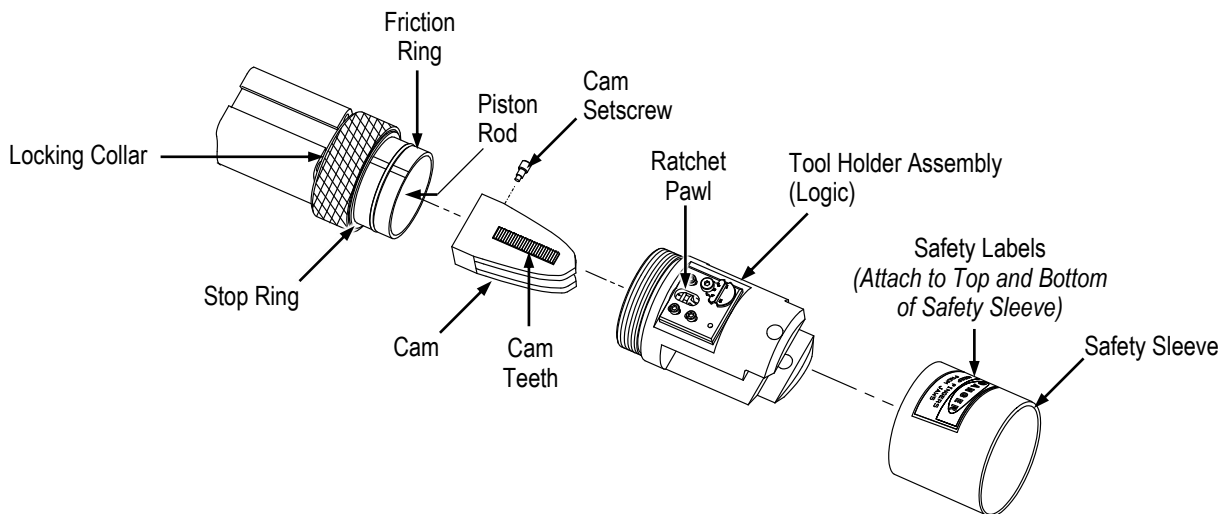

Figure 8
A strip of adhesive-backed safety labels, printed in various languages, is packaged with the tool holder assembly. Remove the appropriate label from the strip and attach it to the safety sleeve (which is supplied with the small and large tool holder assemblies) as shown in Figure 8 or directly to the adapter (which does not require the safety sleeve).
2. Place cam (with setscrew) onto piston rod as shown in Figure 8. Cam should butt against the piston rod face. If not, turn the cam setscrew *counterclockwise* until cam fits on piston rod properly.